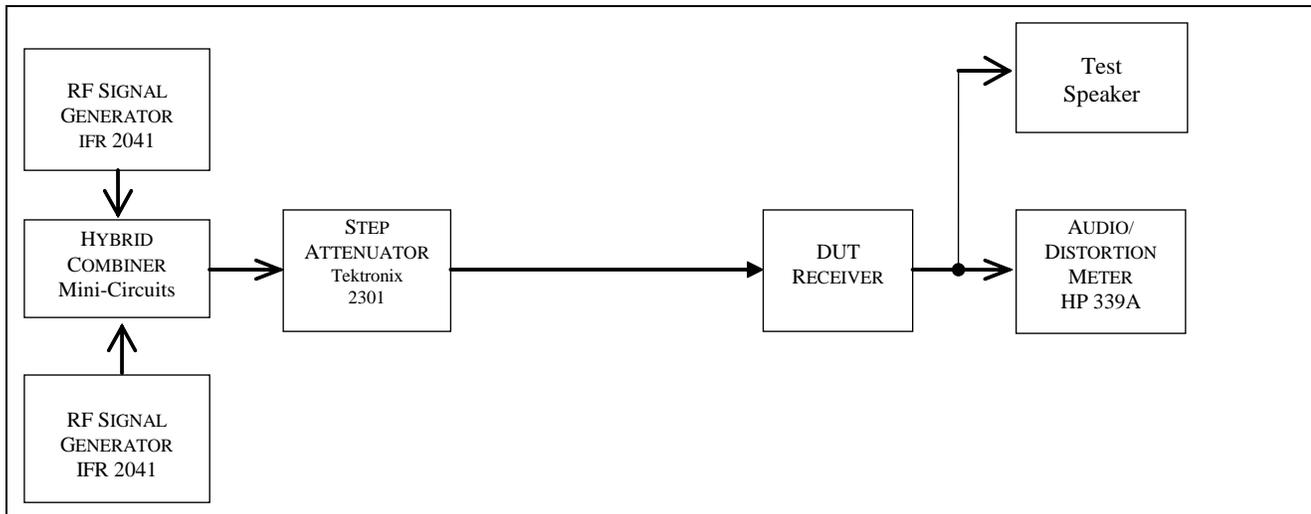

Fig. 5-9 — FM Adjacent Channel Selectivity Test Hook-up
5.9.2 Test hook-up (See Fig. 5-9)